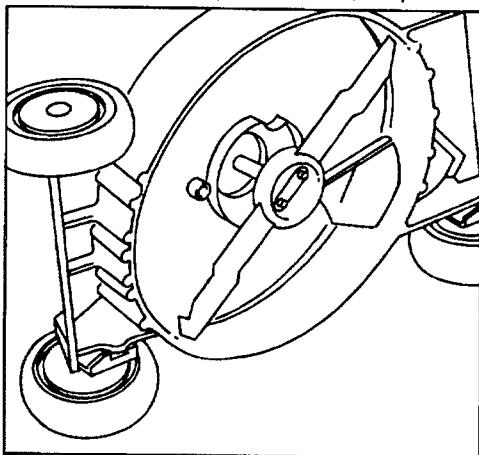

Figure 28
2. Tip mower on its right side (Fig. 28). Avoid rotating blade because starting problems may result.